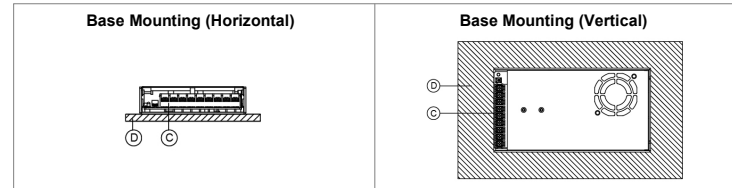
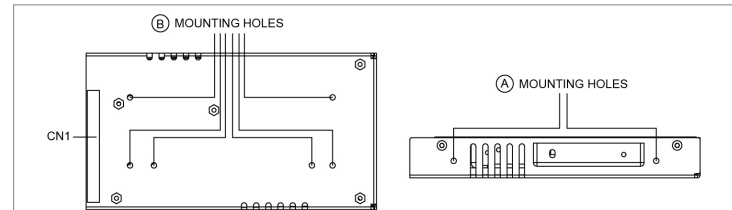

Fig. 2. Recommended Mounting Orientations
Fig. 3. Mounting Hole Locations
- ① Input & Output terminal block connector
- ② DC voltage adjustment potentiometer
- ③ DC OK control LED (Green)
- Ⓐ Side Mounting: Fig. 2 and Fig. 3 show the mounting hole locations for power supply assembly onto a metal mounting surface. The power supply shall be mounted on minimum of 2 mounting holes using M4 screw of maximum 5mm length (Refer to Fig. 5). This is to maintain a safety distance between the screw and internal components.
- Ⓑ Base Mounting: Fig. 2 and Fig. 3 show the mounting hole locations for power supply assembly onto a metal mounting surface. The power supply shall be mounted on minimum of 4 mounting holes using M4 screw of maximum 4mm length (Refer to Fig. 5). This is to maintain a safety distance between the screw and internal components.
- Ⓒ Fig. 2: Connector
- Ⓓ Fig. 2: This surface belongs to customer's end system or panel where the device is mounted.